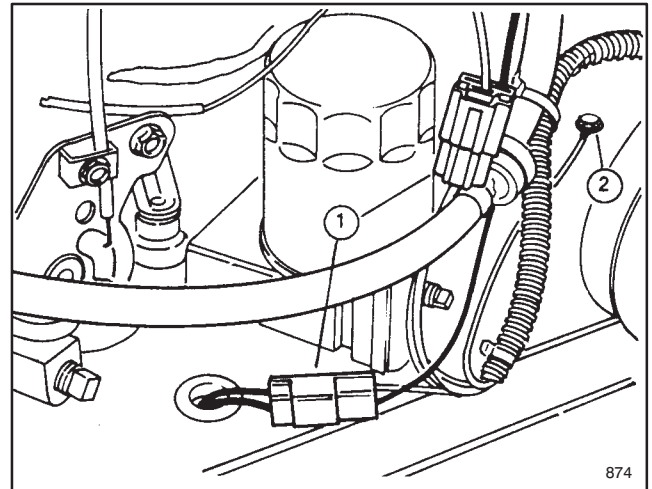

Figure 2
REPLACE WIRE HARNESS (Fig. 2 - 4)
1. Disconnect wire harness from clutch and engine connectors. Also, remove self tapping screw and washer securing remaining wires to frame. (Fig. 2).